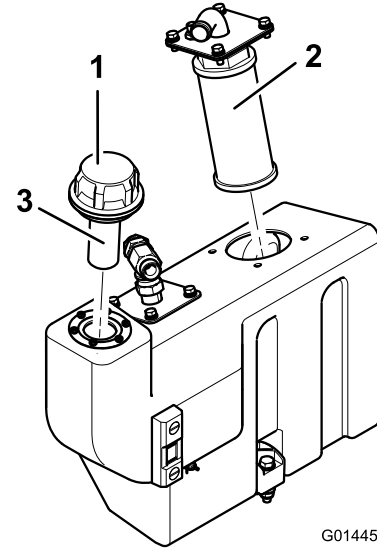

Figure 73
- Remove the oil tank suction flange to gain access to the suction strainer (Figure 73).
- Unscrew and remove the strainer and clean with paraffin or petrol before installing (Figure 73).